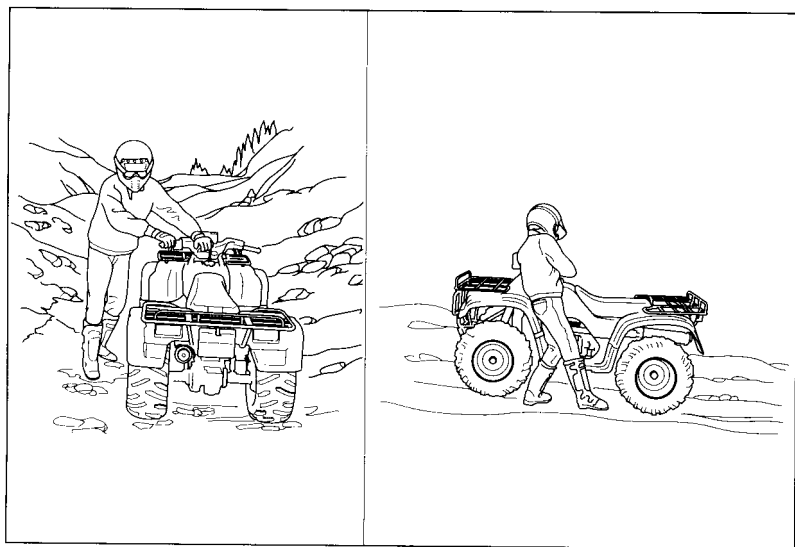

Fig. 3-11 Be sure your legs are clear of the wheels.
1. Stand with your body facing downhill, beside the vehicle so you can reach the rear brake lever with your right hand (see Figure 3-11).